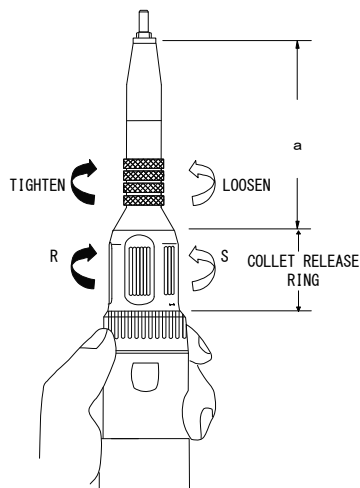

Fig. 4
- 1) Loosen the "a" part(see fig.4)by hands(just one or two turns).